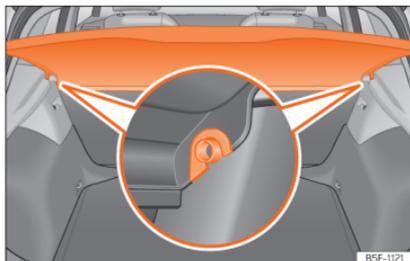

Fig. 172 In the boot: removing and installing the shelf.
- Remove the rear shelf from the side supports »» Fig. 172 by pulling it upwards and then take it out.
- Insert the cover horizontally so that the “recess” fits onto the axis of the supports »» Fig. 172 and press down until it engages.